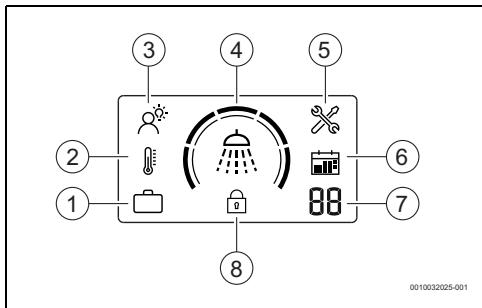

Fig. 5 Display controller assembly
- Press the  key until SMART mode appears on the display (→ Fig. 5 [3]).
- Press the  key until Manual mode appears on the display (→ Fig. 5 [2]).
- Press the  key until Vacation mode appears on the display (→ Fig. 5 [1]).
- Press the key  to set the desired number of vacation days (→ Fig. 5 [7]).
This function locks the control panel (→ Fig. 5 [8]).